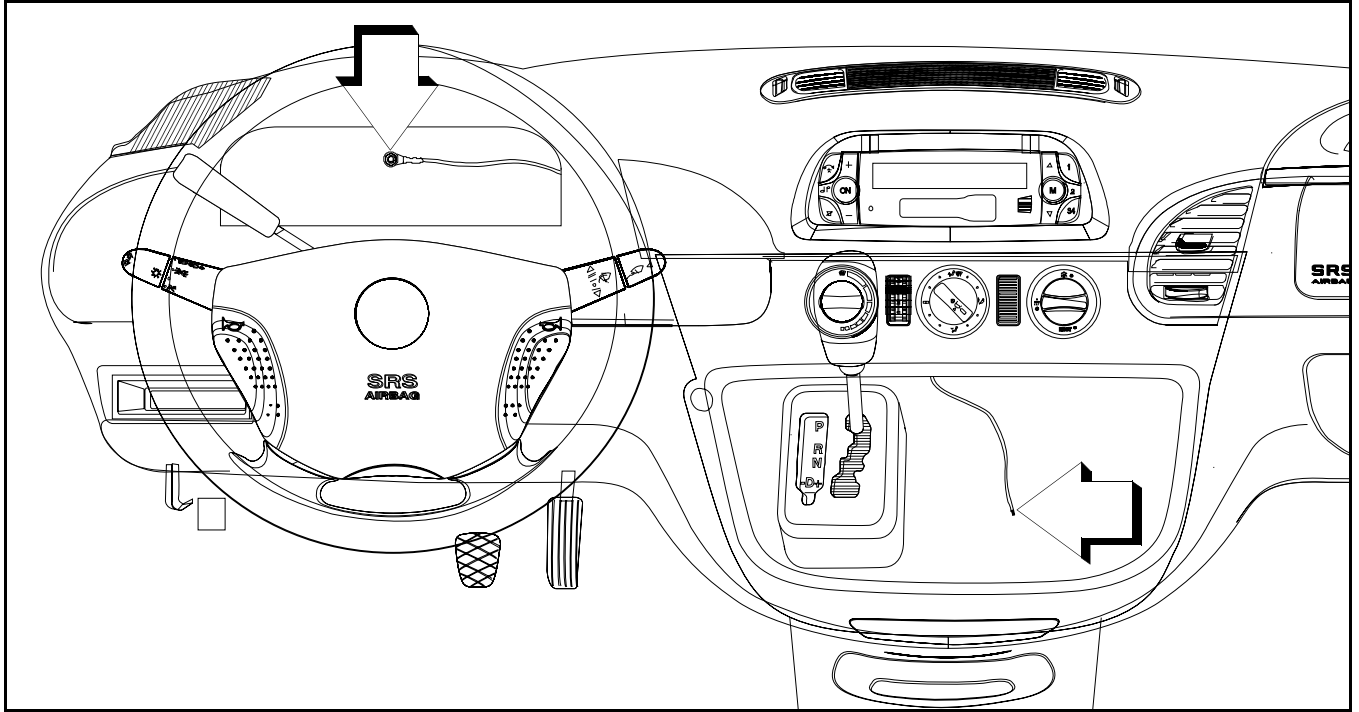

Figure 13 Routing of Ground Wire
13. Route the ground wire to the center stack. Crimp an electrical terminal 05103882AA to the end of the wire (Figure 13).